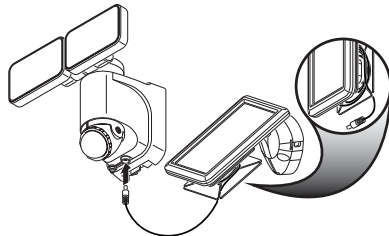

Figure 10
3. Carefully route the solar panel cable to the light fixture. Remove the rubber plug from the bottom of the light fixture and insert the end of the cable into the opening (see Figure 10). *Note:* Wrap any excess solar panel cable around the cord management system located on the rear of the solar panel. Leave enough loose cable to form a drip loop.